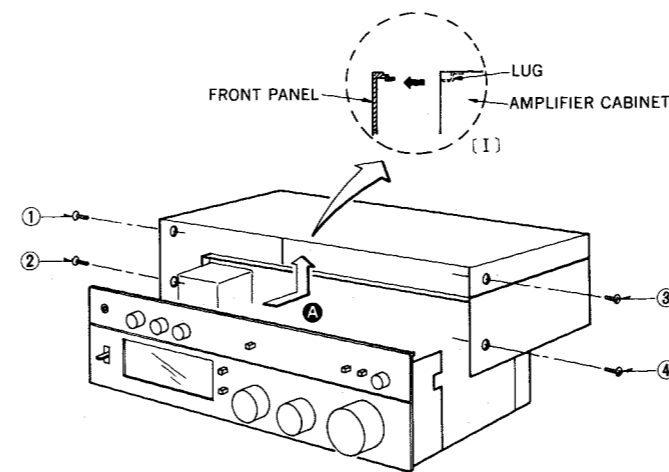

Fig. 1
1. Remove the 4 setscrews (① ~ ④ in Fig. 1) on the side and 4 setscrews (⑤ ~ ⑧ in Photo 1) on the back of the amplifier cabinet.
2. Shift the cabinet backward and lift it upward. (Arrow A in Fig. 1)
3. When mounting the cabinet, completely fit the top lug of the cabinet with the front panel before tightening the setscrews. (See Fig. 1 [I].)